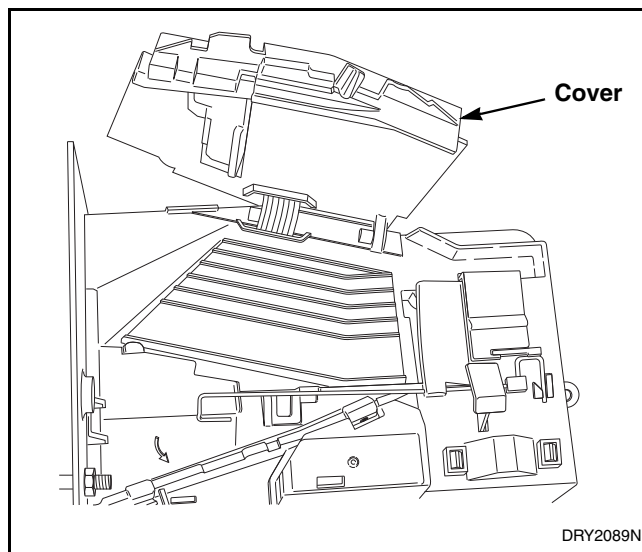

Figure 25
- Open cover for coin drop. Refer to Figure 25.